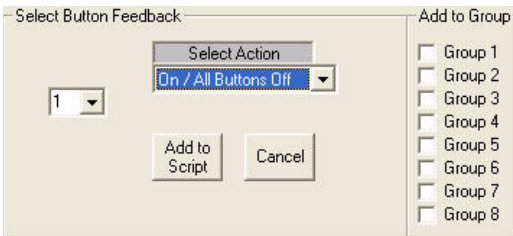

FIG. 112 Select Button Feedback - Select Action
- a. Select a button action from the *Select Action* drop-down menu (FIG. 112):